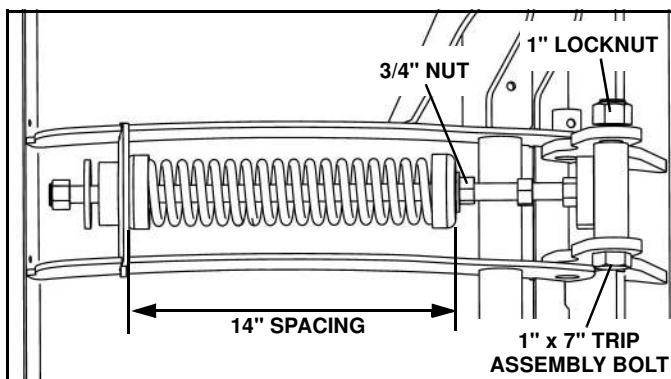

Figure 2-9
13. Install a 1" locknut on the trip bolt. Tighten the nut to remove all freeplay from the bolt, but still allow it to spin in the mounting holes and saddle (See Figure 2-9)